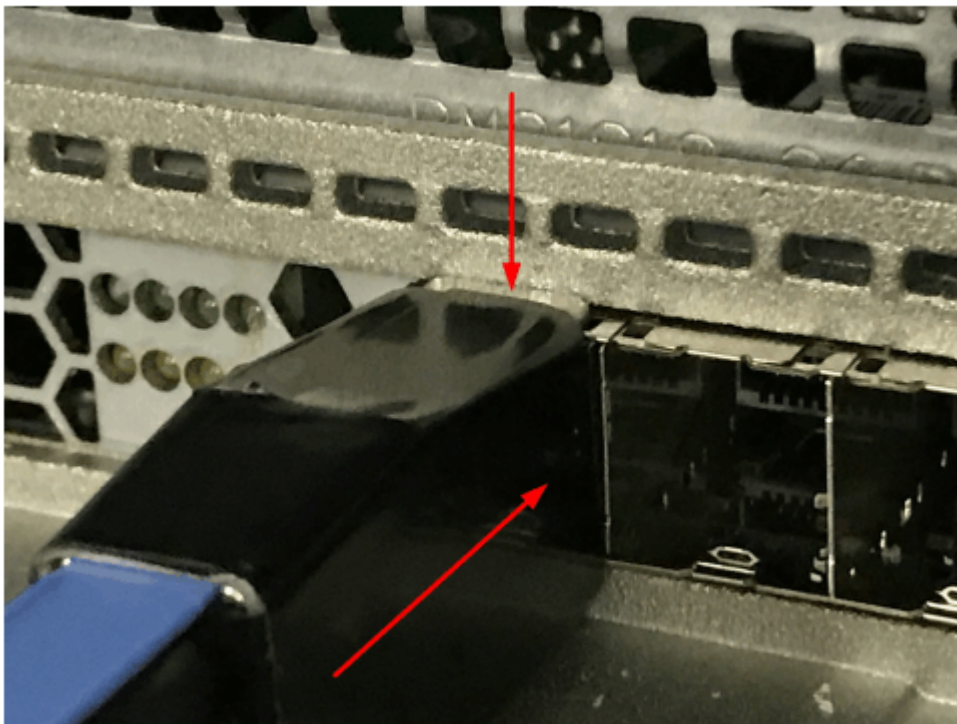

Figure 60. Pushing the SAS cable latch closed
- Insert the connector gently until it clicks into place. If you feel resistance, the connector is probably oriented the wrong way. Do not force it. See Figure 60 on page 99.